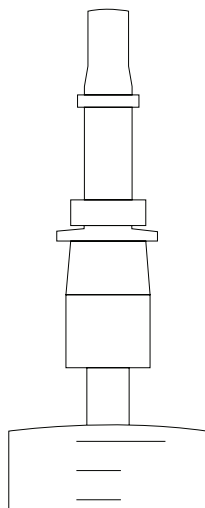

Figure 6 Insert tensiometer shaft
3. Push the ceramic tip of the first tensiometer shaft into the tube piece (Figure 6).